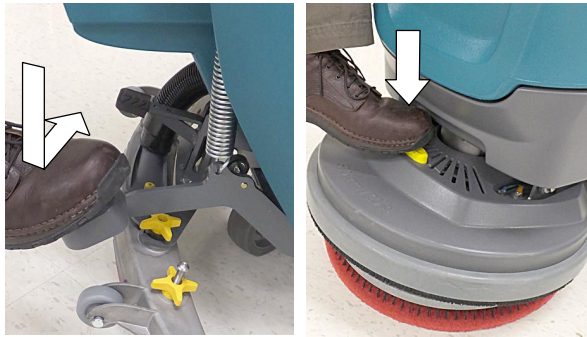

FIG. 17
- To remove the pad driver(s)/brush(es), raise the scrub head and press the yellow plunger button with foot or hand (Figure 17). Pad will drop to floor.